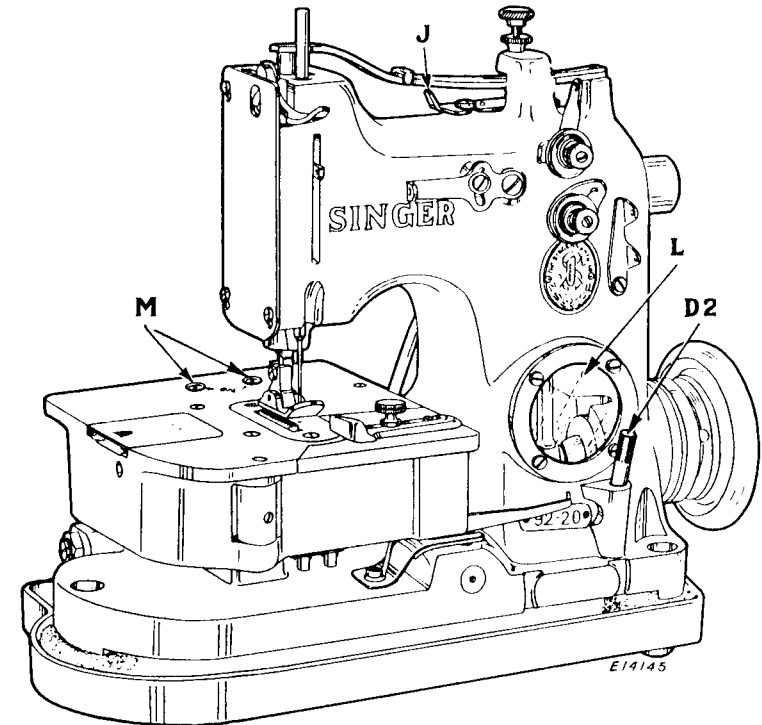
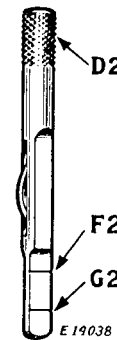
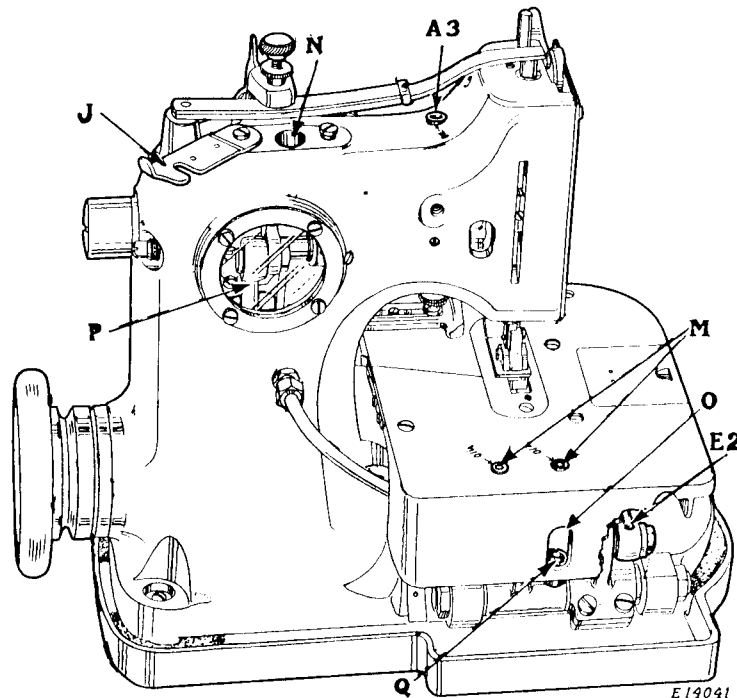

Fig. 2. Front View - Oiling
Fig. 3. Oil Gauge
Fig. 4. Rear View - Oiling
Turn aside the oiling top cover (J, Figs. 2 and 4) thus uncovering opening (N, Fig. 4) into which pour oil until its level (in the oil reservoir in the machine bed) coincides with the upper mark (F2, Fig. 3) on the oil gauge (D2, Figs. 2 and 3). Wipe the oil gauge (D2) dry and clean so that the oil level will be plainly indicated when the gauge is inserted fully in the oil reservoir as shown in Fig. 2 and then withdrawn for inspection.
Apply a few drops of oil, through the ball oilers at (M, Figs. 2 and 4) for the feed bar. Through the opening (O, Fig. 4) in the rear side of the cloth plate, saturate the wick (Q, Fig. 4) for the feed bar shaft; also apply a drop or two of oil at (E2, Fig. 4) to the end of the feed connecting rod, and saturate the wick at (A3, Fig. 4) for the front bearing of the arm shaft.
Note that the front and rear arm side covers (L, Fig. 2) and (P, Fig. 4) respectively, are transparent, thus enabling the operator to determine at a glance that the oil splash system is functioning. If the oil splash, during operation of machine, is not visible through arm side covers (L) and (P), insufficient oil in the reservoir is indicated. In such case STOP THE MACHINE AND CHECK THE OIL LEVEL by means of the oil gauge (D2) as instructed on the preceding page.